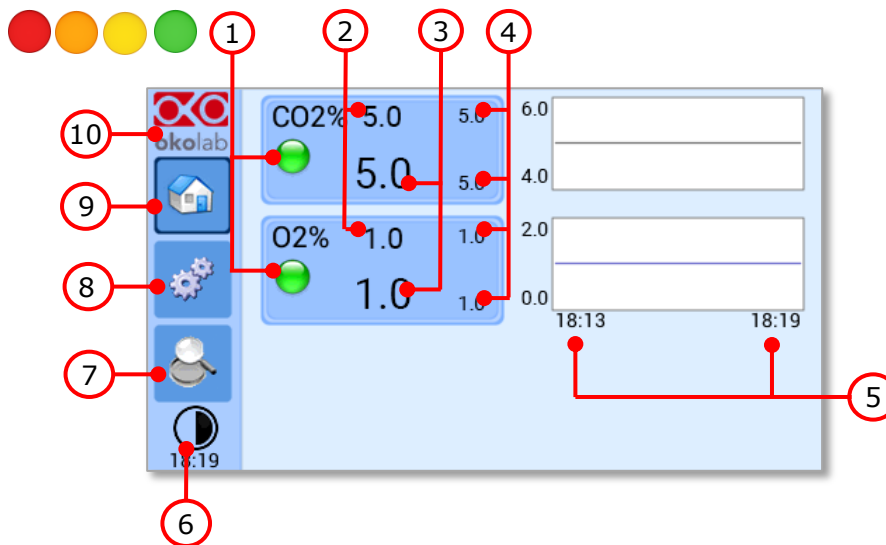
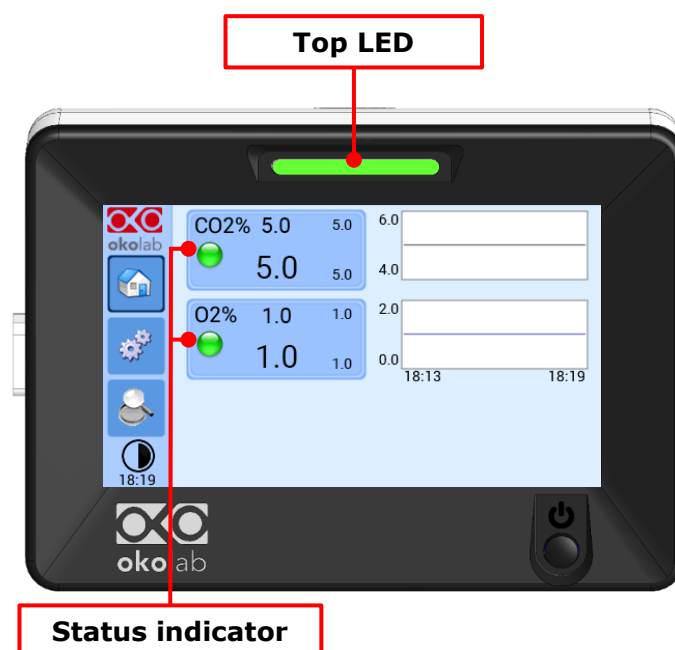

Figure 22. Homepage of CO2-O2-UNIT-BL [0-10; 0-1] Touch Screen Display.
Figure 25. Status Indicator and TOP LED.
10. Once the system has been initialized the Status LED on the front of CO2-O2-UNIT-BL [0-10; 0-1] will stop blinking and will turn steadily on. The Homepage will appear on the touch screen, the color of the Status Indicator (see 1 in Figure 22 and Figure 25) on the gas tab will be yellow at the start.
Tip ► After any change in the Setpoint value, CO2-O2-UNIT-BL [0-10; 0-1] enters into a transient regime, the Status Indicator and the TOP LED (see Figure 25) turn yellow (see paragraph 9.1.2). During the transient regime, CO2-O2-UNIT-BL [0-10; 0-1] will not trigger on alarm.
CO2-O2-UNIT-BL [0-10; 0-1] can assume four different status, which are represented by the colors assumed by the Status Indicator and by the TOP LED (see Figure 25):
Tip ► The TOP LED follows the same color code as the Status Indicator (see Figure 25). To enable/disable the TOP LED follow the instruction reported in paragraph 9.2.2.3.